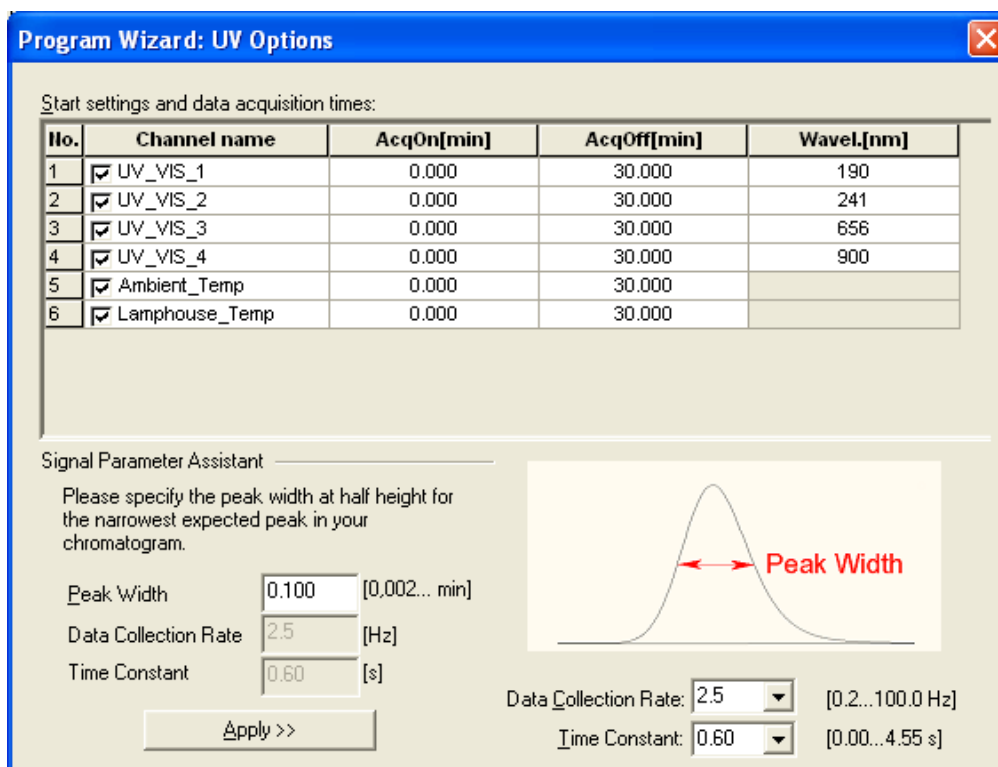

Fig. 26: UV Options page in the program wizard
- The Program Wizard in Chromeleon automatically calculates the time constant (and appropriate data collection rate), based on the value you enter for peak width at half-height (→ Fig. 26, page 85).
The Program Wizard in Chromeleon automatically calculates the time constant (and appropriate data collection rate), based on the value you enter for peak width at half-height (→ Fig. 26, page 85).